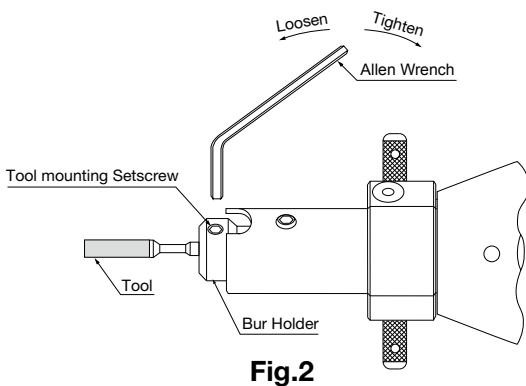

Fig.2
- ① Insert a tool (less than $\varnothing 3.2$ mm) into the bur holder and tighten the tool mounting setscrew with the supplied Allen Wrench (**Fig.2**).
Loosen the tool mounting setscrew with supplied Allen Wrench, and remove (**Fig.2**).